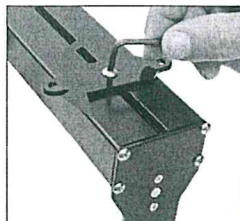
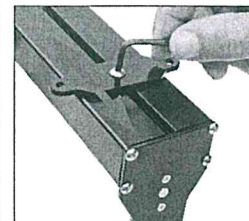

Fig. 2
Fig. 3
- If necessary, adjust the shade from side to side by loosening the bracket bolt (Fig. 2) and sliding the bracket to the desired position. (Fig. 3)*